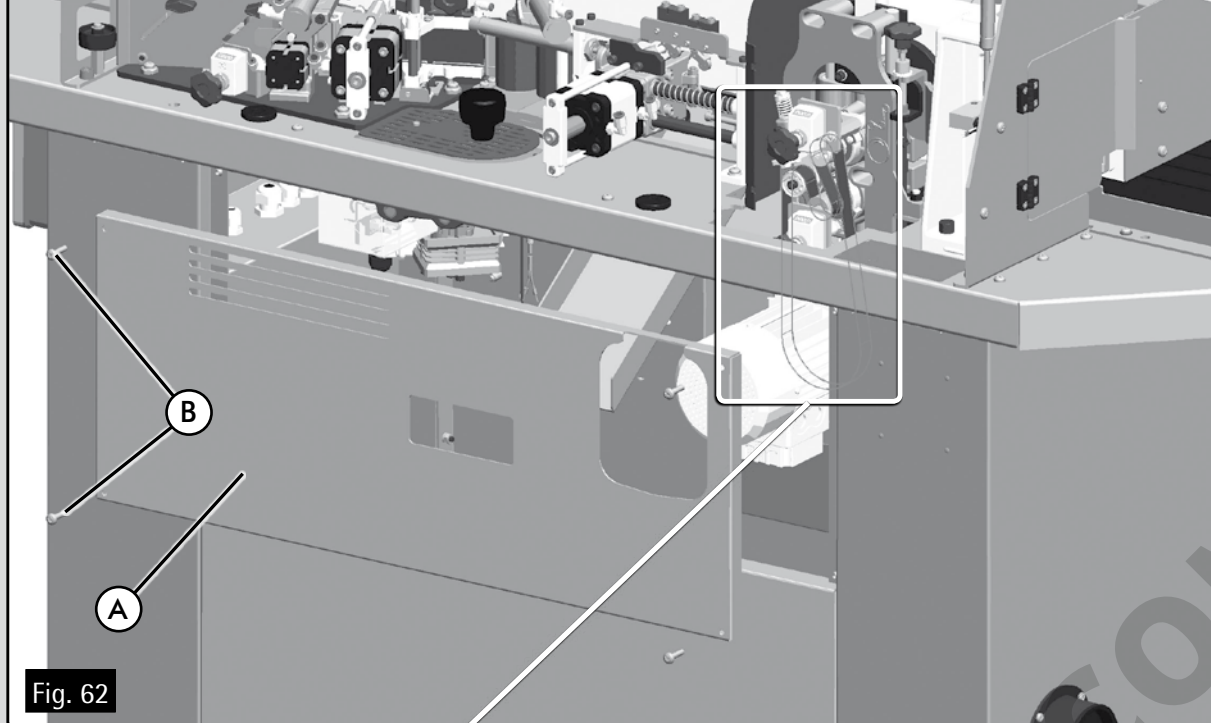
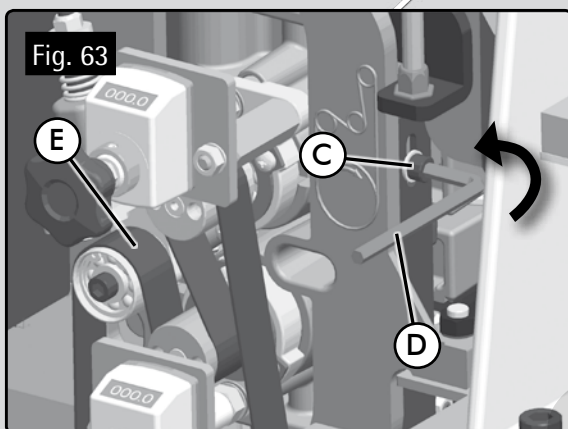

Fig. 62
Fig. 63
- Remove rear cover A (Fig. 62), removing screws B. Loosen the screw C (Fig. 63), using key D, so that the belt E (Fig. 63) is free of tension.
Once this distance has been verified, reinsert the screw C (Fig. 63).